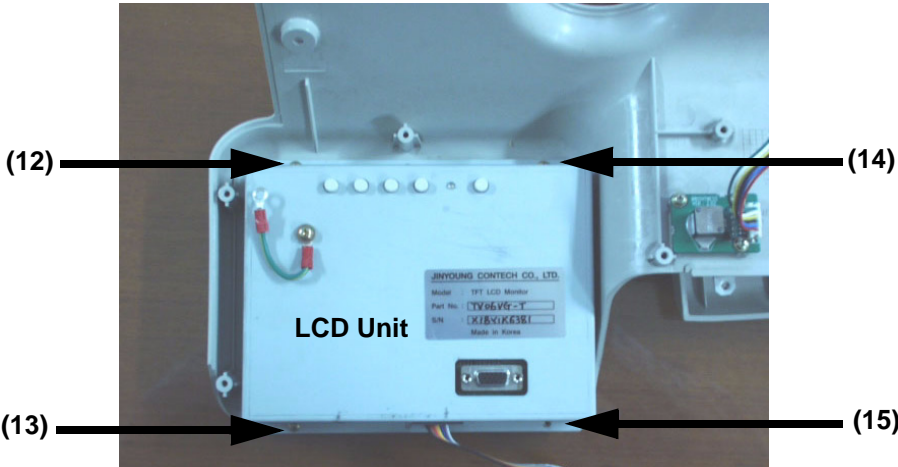

Figure 8-44    Unscrew 4 screws from the LCD unit
- 3.) Unscrew four (4) screws (12-15) from the LCD unit Refer to Figure 8-44.